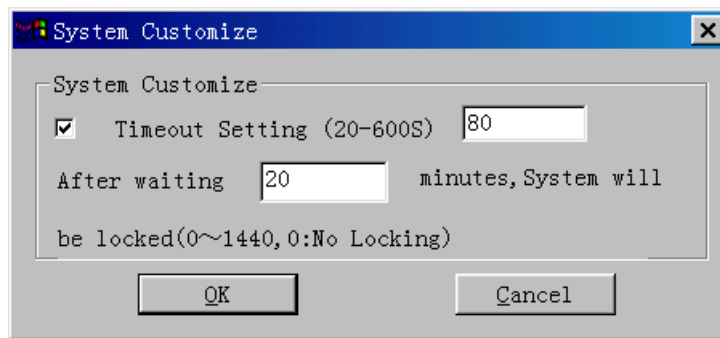

Figure 3-7 [System Customize] dialog box
- 1) On the CDR console, select [System/System Customize]. The [System Customize] dialog box is displayed, as shown in Figure 3-7.
Select [System/System Customize]. The [System Customize] dialog box is displayed, as shown in Figure 3-7.